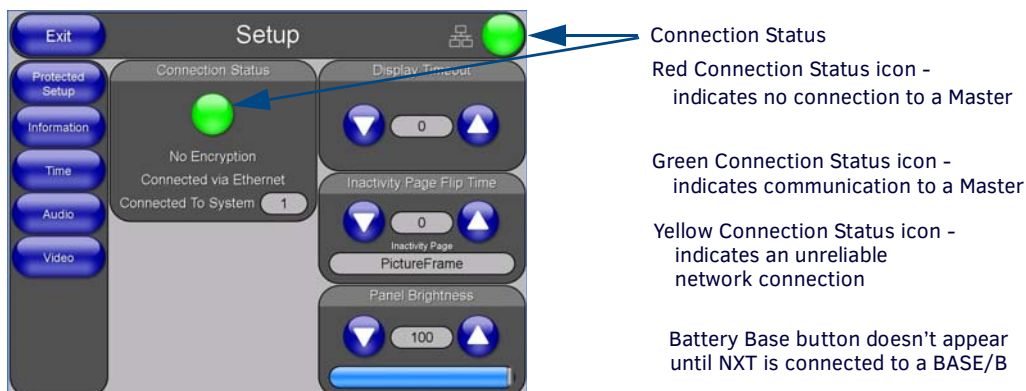

FIG. 68 Setup page
1. Press the grey Front Setup Access button for **3 seconds** to open the Setup page (FIG. 68).